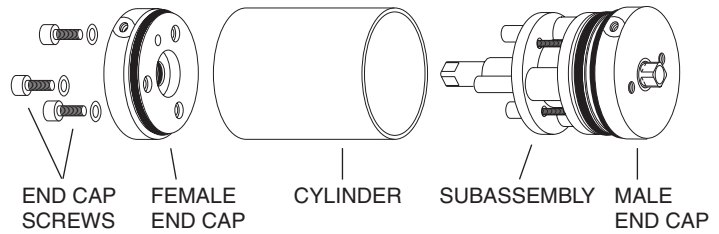
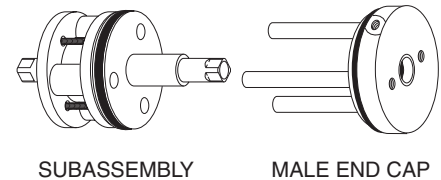

Figure 3: Steps 3 – 6
Figure 4:
3. Use the 9/64" hex driver to remove the three end cap screws with PEEK washers. **(Figure 3)** Some models have slotted head screws instead of hex head.
7. Pull the subassembly off the male end cap as indicated in **Figure 4**. (NOTE: Recently purchased actuators may have a sub-assembly made primarily of molded plastic, differing in appearance from the one shown in **Figures 3, 4, and 5**. The procedures are the same for either type.)